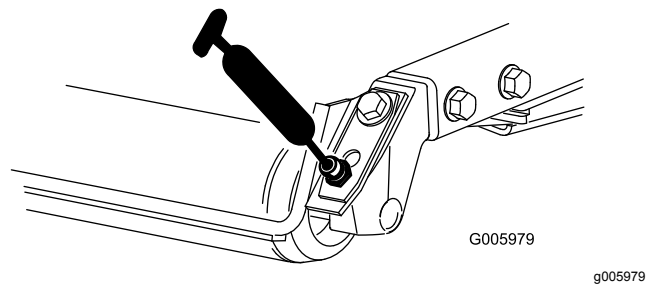

Figure 24
- Rear roller bearings (2 per cutting unit) (Figure 24)